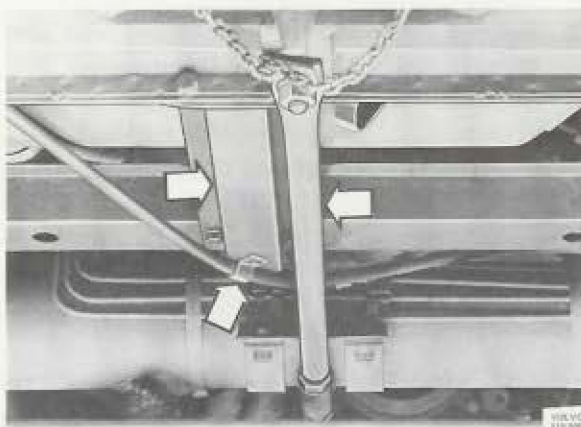

Fig. 26-9. Removing parts under the radiator
- Remove the bumper centre stay and the clamp for the clutch wire, Fig. 26-9.
- Remove the member under the radiator, Fig. 26-9. Move the wires to the one side and take down the radiator.